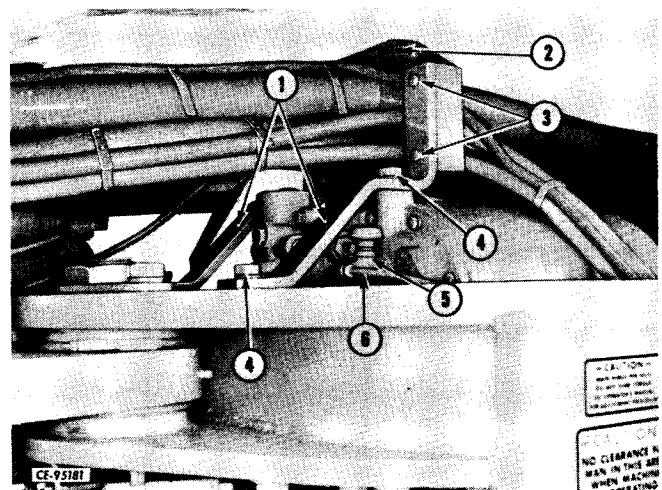

Figure 4-16
Remove cap screws and nuts (3, Fig. 4-16) that secure hose pad (2) to transmission supports (1). Disconnect line (6) from breather (5). Block transmission from underneath to prevent tipping. Remove cap screws (4) that secure supports to frame and transmission. Remove supports and install special lifting eyes (refer to "SPECIAL TOOLS") in holes on top of transmission.